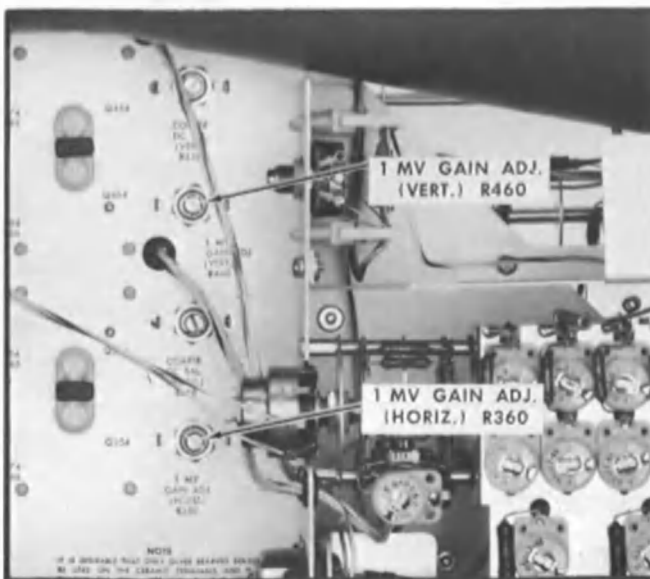

Fig. 6-13. Location of 1 mV Vertical and Horizontal gain adjustments.
- Adjust 1 MV GAIN ADJ. (VERT.) R460 for a display amplitude of 5 cm. (See Fig. 6-13 for R460 location.)
- Adjust 1 MV GAIN ADJ. (HORIZ.) R360 for dot spacing of 5 cm. (See Fig. 6-13 for R360 location.)